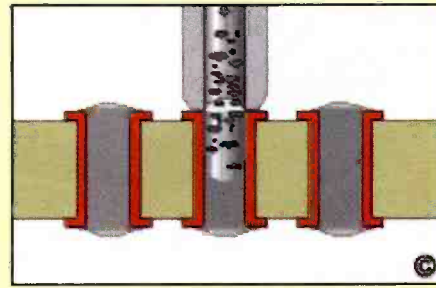

Figure 5. Removing excess solder from plated holes using a vacuum desoldering tool.
4. After the solder melts, activate the vacuum and suck the solder through the hole in the tip into the solder storage chamber (Figure 5).